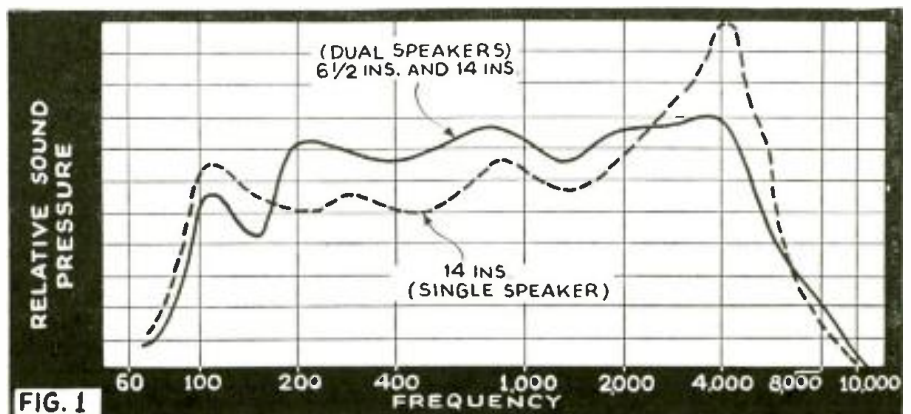

FIG. 1
complementary to each other. By proper choice of units one speaker will fill in where the other is deficient. The importance of this can best be realized from study of the sound pressure curves shown in Fig. 1.
**Results.**—The 2 sound-pressure curves (Fig. 1) show the improvement effected by the 6½-in. and 14-in. combination over the single 14-in. speaker. These characteristics were taken under identical conditions with the microphone located midway between the axes of the 2 loudspeakers. The single 14-in. speaker characteristic was obtained simply by disconnecting the 6½-in. unit, and repeating the test. The same amount of electrical power was supplied in both cases.
In order to simplify calculations involved in determining the impedances between taps, Fig. 1 shows all possible impedance combinations in a standard output transformer equipped with 2/4/8/16/250/500-ohm terminals.